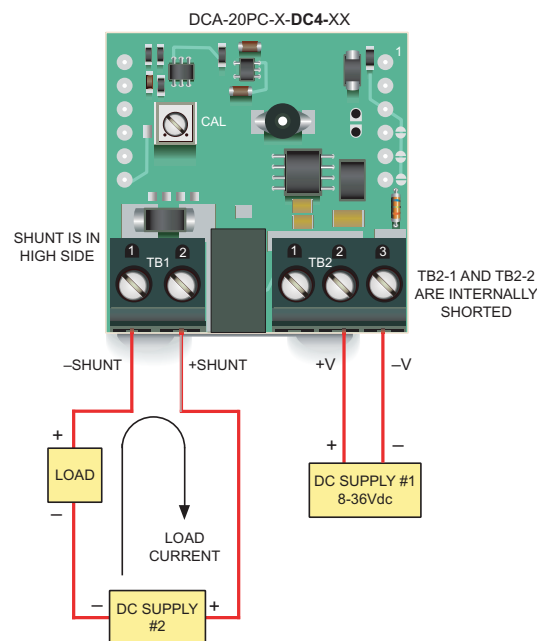
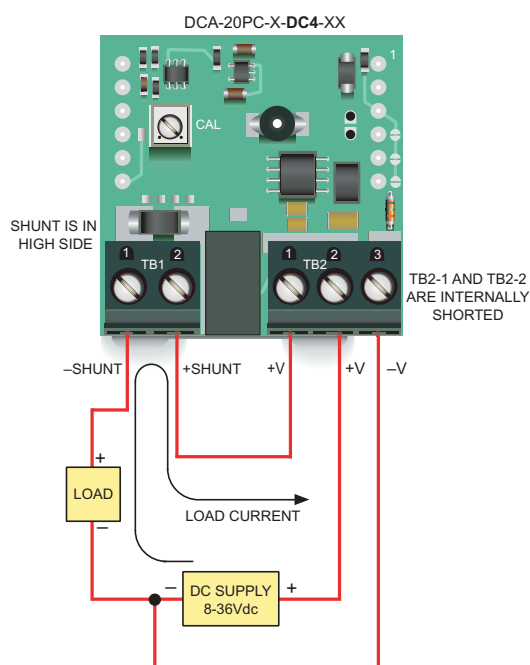

Figure 5. Using “-DC4” Isolated-Power Models to Maintain Isolation Between Two Power Supplies
Figure 4. High-Side Shunt Connections for “-DC4” 8-36Vdc Isolated-Power Models
**High-side shunts:** ‘-DC4’ 8-36Vdc isolated-power models must be used in all applications that employ a single power supply to power both the load and the ammeter and the shunt is located in the high side (positive terminal) of the power supply. Figures 4 and 5 depict typical high-side shunt connections. As shown in Figure 5, ‘-DC4’ isolated-power models can also be used in applications where one supply powers the ammeter and a second supply powers the load, but the two supply-grounds cannot be tied together. ‘-DC4’ models include a built-in dc/dc converter to provide a minimum 500Vdc isolation between the shunt (TB1) and power supply (TB2) inputs.